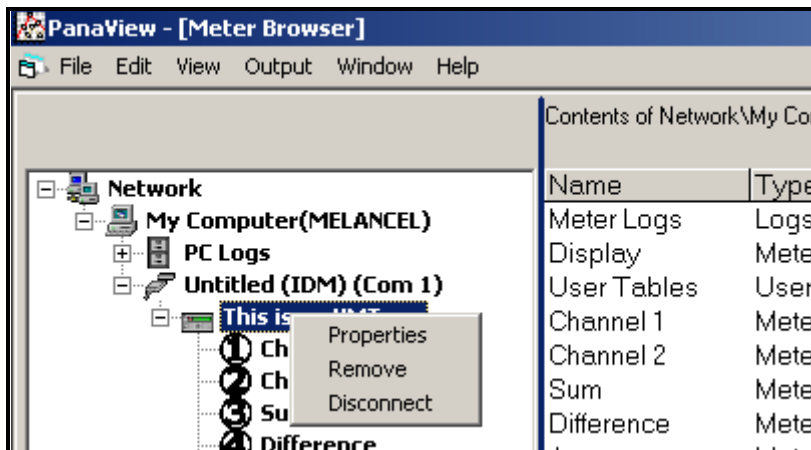

Figure C-15: *Properties* Option
2. Right-click on the highlighted XMT868i and select the *Properties* option, as shown in Figure C-15 below.